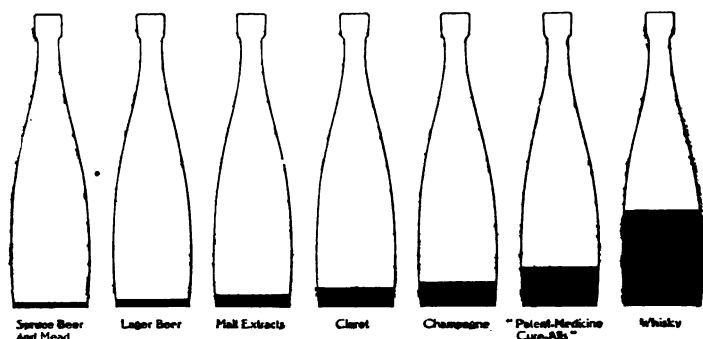

FIG. 218. — Proportions of alcohol in patent medicines and in alcoholic beverages.
*Patent medicines.* In this connection something should be said about the danger of using patent medicines, because they contain large per cents of alcohol. Figure 218 shows the amount of alcohol contained in patent medicines in comparison with the amounts contained in alcoholic liquors. The average medicine contains much more alcohol than beer or wine and some contain as much as whisky. In a